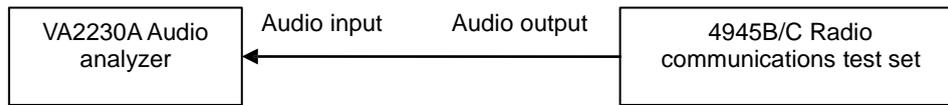

Fig. 6-13 Block diagram for audio signal generation characteristics test
- 1) As shown in Fig. 6-13, set 4945B/C to the audio generation mode, with the output frequency of 20 kHz, the amplitude of 200 mVrms, the waveform of sine, and the output impedance of high-Z; set the audio analyzer to the audio measurement mode, and record the measured frequency values in corresponding spaces of Table A.1;
- 1) As shown in Fig. 6-13, connect the test instrument, set 4945B/C to the audio generation mode, with the output frequency of 20 kHz and the amplitude to 10 mVrms; record the measured level value of the audio analyzer in corresponding space of Table A.1;